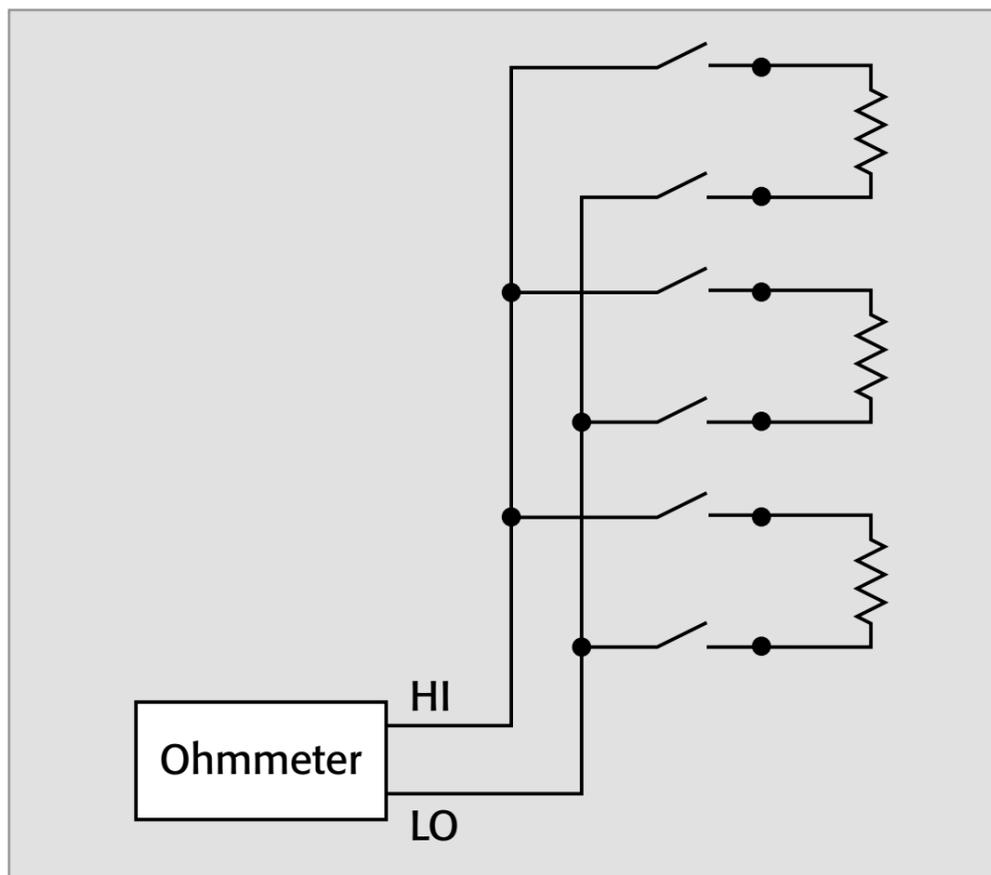

Figure 18b. Differential method for switching resistances
**Figure 18b** illustrates the differential method. A two-pole relay is used to connect both terminals of the unknown resistor to the meter.